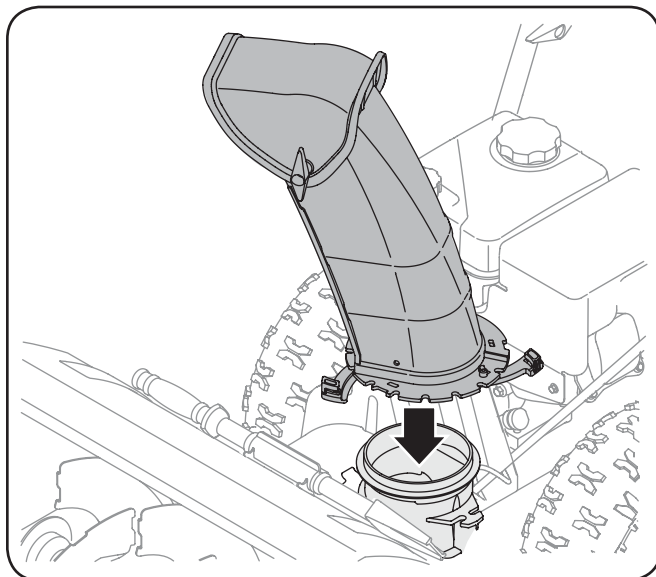

Figure 3-19
1. Position the chute assembly over the base. See Fig. 3-19.